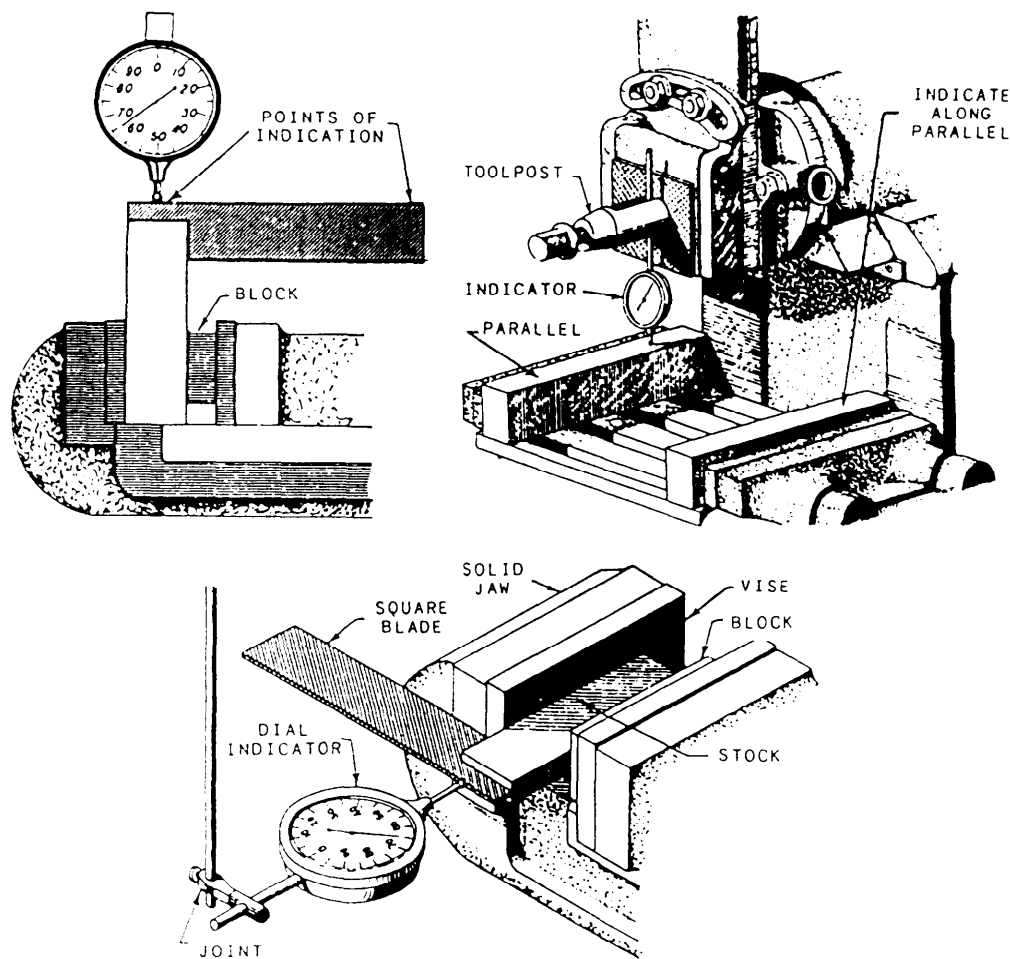

Figure 9-8.—Squaring the table and the vise.
- Test the table to see if it is level and square. Make these tests with a dial indicator and a machinist's square, as shown in figure 9-8. If either the table or the vise is off parallel, check for dirt under the vise or improper adjustment of the table support bracket.